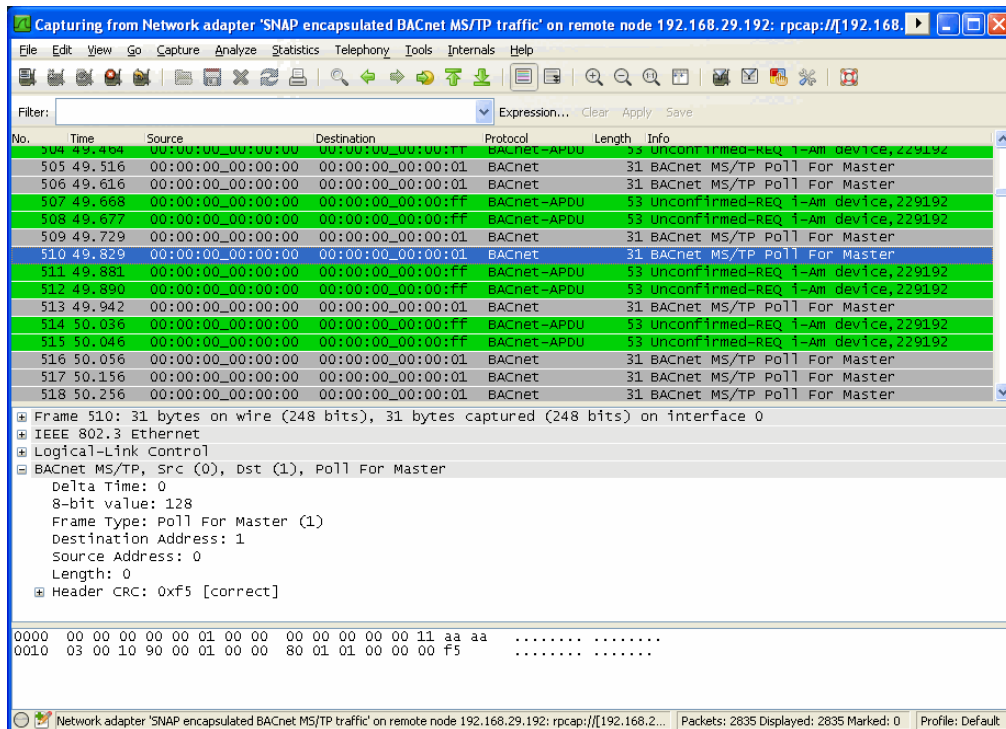

Figure 381: Example MS/TP remote capture in progress.
3. Wireshark will attempt to establish a connection to the device and, if successful, start displaying packets. An example capture is shown in Figure 381.